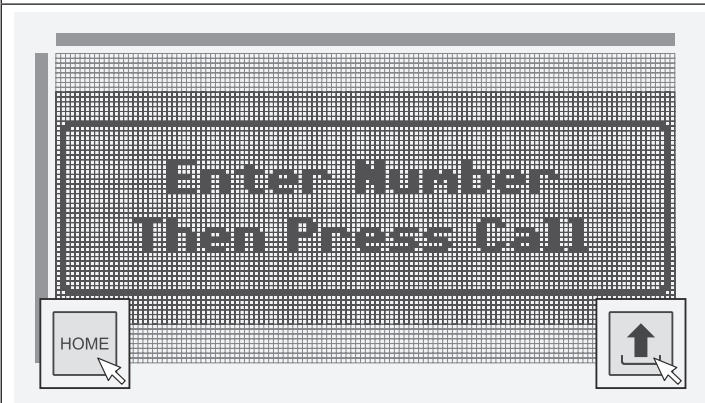

Fig. 94
7. Click on the home screen icon to switch back to the default home (welcome) screen and then click on the upload to panel icon, as shown in **Fig.94**. This image/logo will be uploaded back into the panel (including any edits made to it from step 4).
After uploading the logo back into the **Digital GSM** panel when the **Digital GSM** intercom is in standby and the display switch time has been set (see **Fig.44** and refer to notes on how to set up the display switch time page 26) it will initially show the logo from **Fig.94** as the new default home (welcome) screen on the main graphical display.